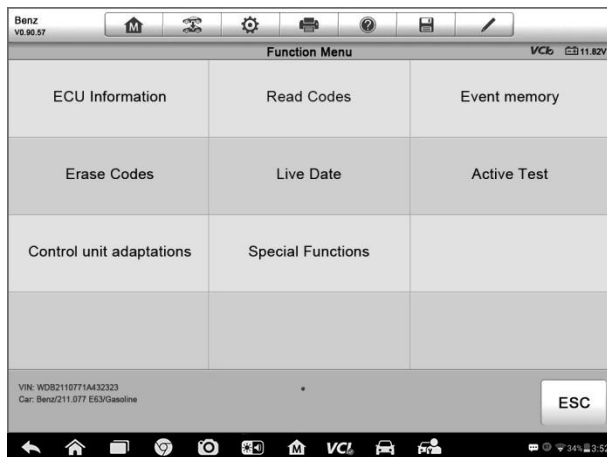

Figure 4-8 Sample Function Menu Screen
- Tab the > button to the right of the system item, on which you want to perform further diagnosis and other test activities. A Function Menu screen (Figure 4-8) shall then display.